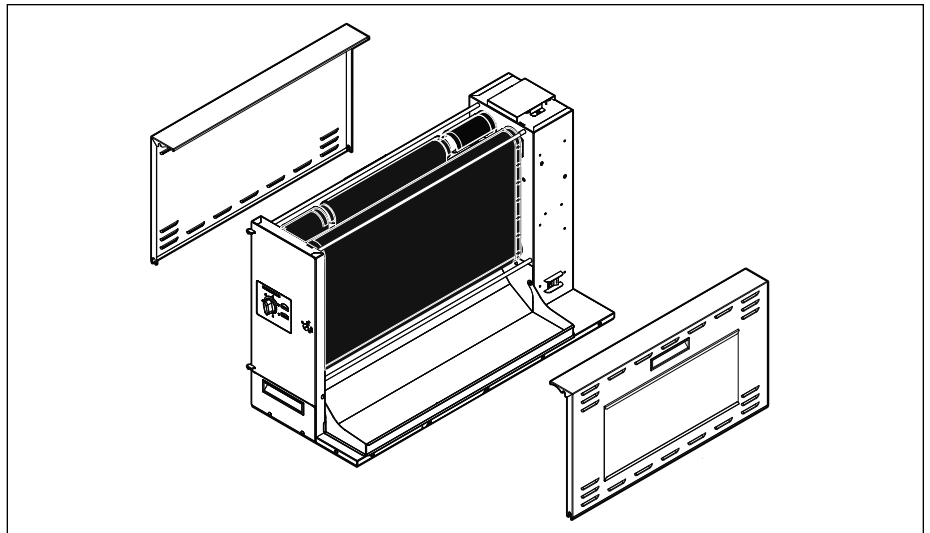

Figure 9. Front and Rear Conveyor Covers
4. Remove the Front Conveyor Covers by lifting up and away from the unit (Figure 9 next page).